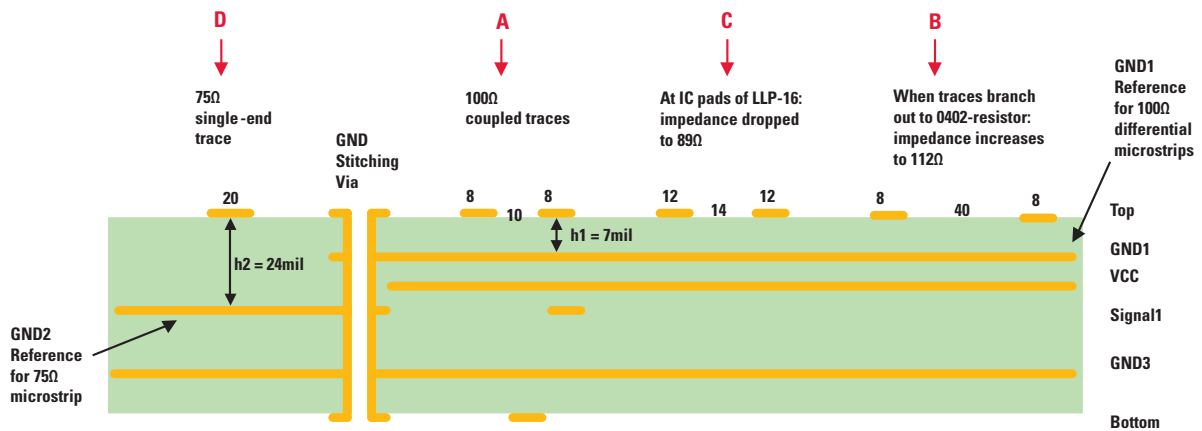

Figure 4. Board Stack-up with Separate Ground References for 75Ω and 100Ω Traces
A board stack-up that works well for both the FPGA and the SDI signal routings is shown in *Figure 4*. In this stack-up, the SDI signal traces are implemented with 75Ω single-end microstrips referenced to GND2 at layer 4. GND2 is a metal island carved out in the signal layer 4. The metal in layer 2 and 3 (GND1 and VCC planes) are removed in the region of the 75Ω traces so they do not lower the traces' characteristic impedance. The 100Ω differential traces of the FPGA are loose-coupled microstrips referenced to GND1
*Figure 9* is a conceptual layout diagram of National's LMH0384 3 Gbps/HD/SD SDI adaptive cable equalizer, LMH0341 SDI de-serializer, LMH0340 SDI serializer and a FPGA (not shown). The stack-up shown in *Figure 4* is used in this example. Layer 2 (shown in green) is the ground reference for the 8-mil wide 100Ω differential trace that goes to the output pins SDO+ and SDO- of the LMH0384, as well as the LVDS signal routings for the LMH0340 and LMH0341. An island of metal on layer 4 (shown in blue) is used as the ground plane for the 75Ω traces. The two ground references are stitched together using the ground via for the device's DAP connection.